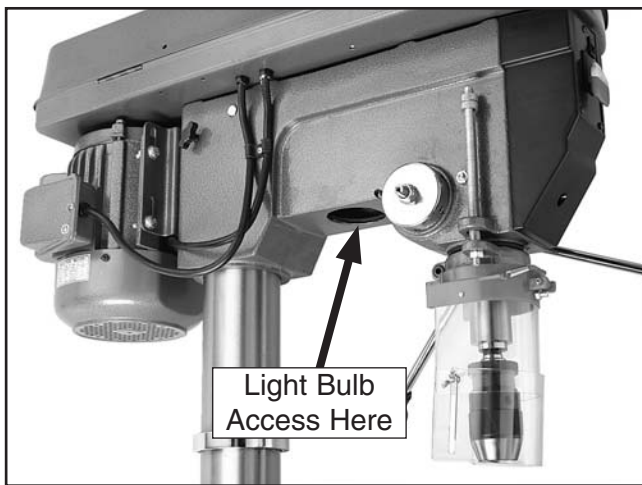

Figure 20. Light bulb access location.
2. Install a 60W or smaller light bulb in the location shown in **Figure 20**.